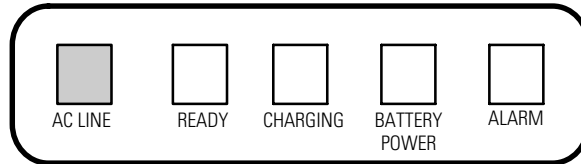

Figure 5. Front Panel Indicators
3. The AC LINE indicator illuminates (see Figure 5).